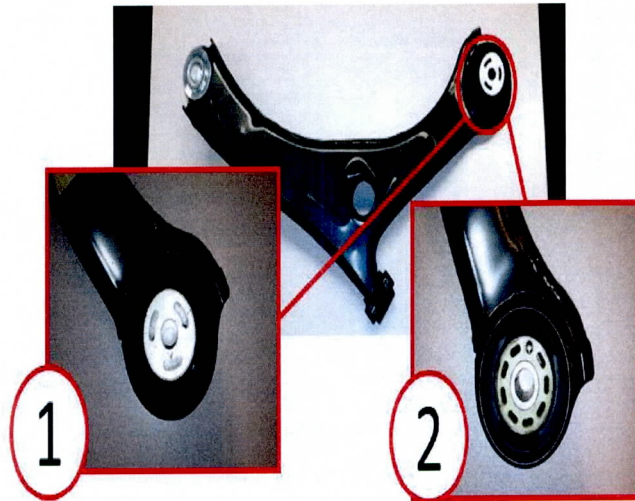

Fig. 1 Front Lower Control Arm
7. Inspect the bushing on the right and left lower control arm as show in (Fig. 1).Did the bushing have 8 slots as shown in call out 2 as compared to 3 in call out 1?